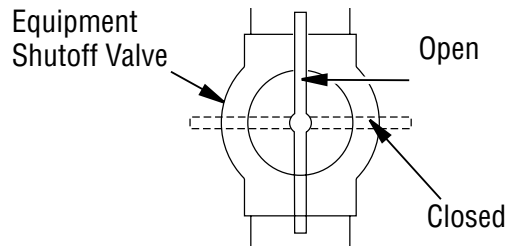

Figure 29 - Equipment Shutoff Valve
1. Close equipment shutoff valve (see **Figure 29**).
1. Open equipment shutoff valve (see **Figure 29**).